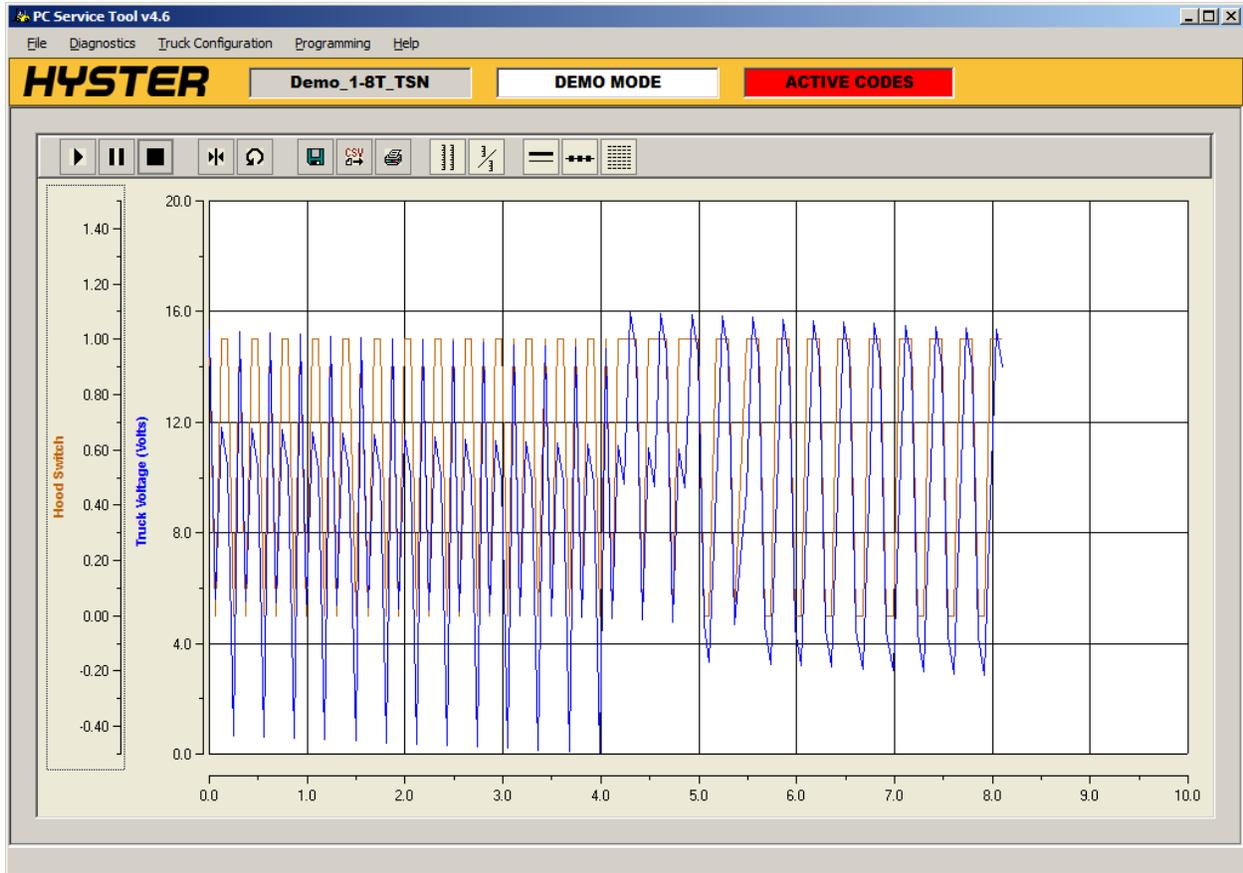

Figure 17: Strip Chart Window
2. Click **OK**, after selecting the desired data items, to display the strip chart windows, as depicted in Figure 17
The Strip Chart Window (again, refer to Figure 17) has several controls associated with the display of chart information.